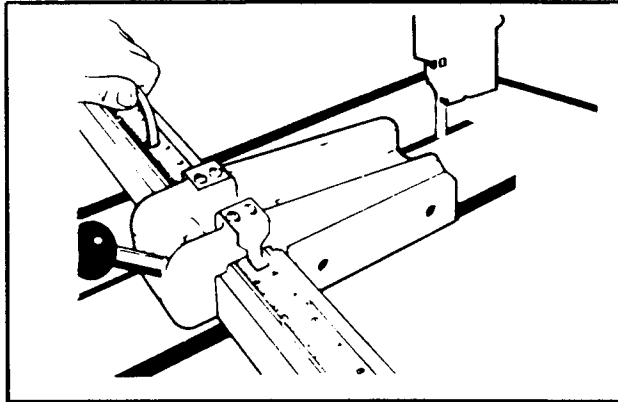

FIG. 34. UNIVERSAL CALIBRATED WORK FIXTURE SET UP FOR STRAIGHT CUT-OFF.
- (1) Place fixture on table at required distance from band. Loosely install T-nuts and screws. If necessary, align scale's "zero" mark with saw band; then "zero" pointer.
- (2) Square fixture to table by lining up one moveable stop edge with one table T-slot edge. Tighten to allow cutting completely through workpiece. Set table stops to prevent sawing into work bar. See Fig. 34.